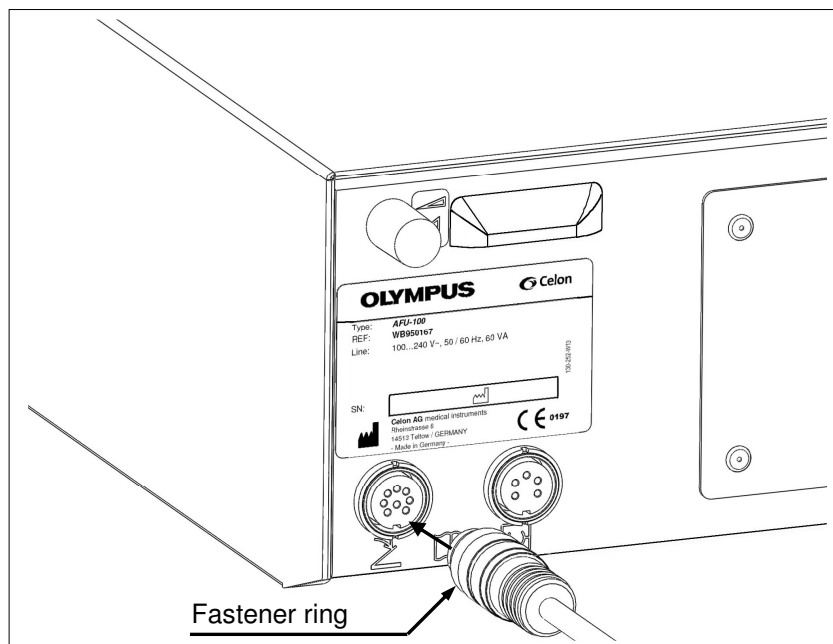

Fig. 6.3: Connection of the footswitch
Before connecting, confirm that the *footswitch plug* (22) is free of scratches and cracks and that the *footswitch pedal* (21) is not damaged. Align the *footswitch plug* (22) so that the keying is facing down. Insert the *footswitch plug* (22) into the *footswitch connector* (15) of the peristaltic pump unit on the rear panel and rotate the fastener ring fully clockwise to tighten it (see fig. 6.3).